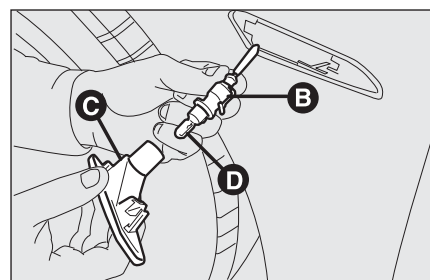

fig. 31
- ☐ turn the bulb holder **B-fig. 31** counter-clockwise and remove it from lens **C**.